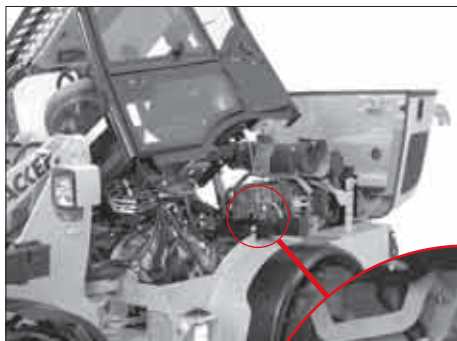

Fig. 74
3. Release the locking of the operator's platform safety supports by pulling the loop Item 1 (Fig. 74).